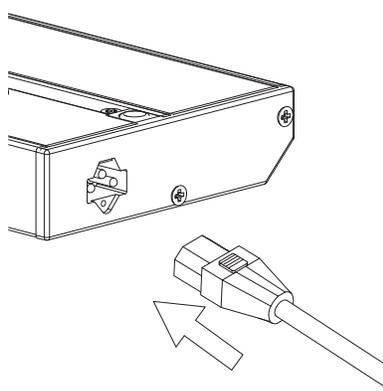

Figure 2
2. Attach the power cord to the "INPUT" receptacle on one end of the luminaire. The power cord will only connect to the "INPUT" receptacle. Do not force connection, it should snap in easily (Fig.2).